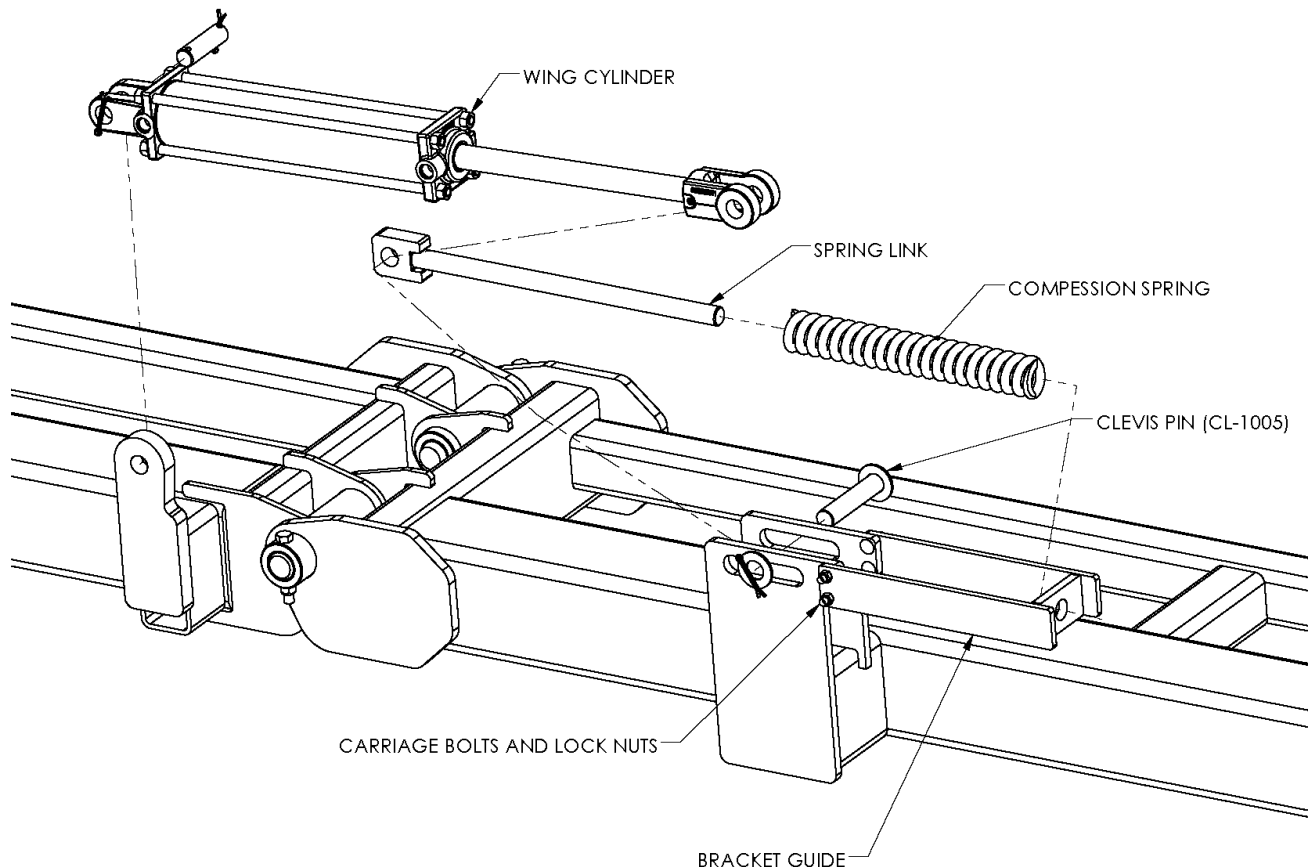

Figure 9
1. Attach the Guide Brackets to the wing cylinder posts using the 3/8" 3 1/2" carriage bolts and locking nuts. The carriage bolts must face outward. Use the 1 1/2" x 8 5/16" hinge pins, 1/2" x 3 1/2" grade 8 bolts, and locking hex nuts. Refer to Figure 9.